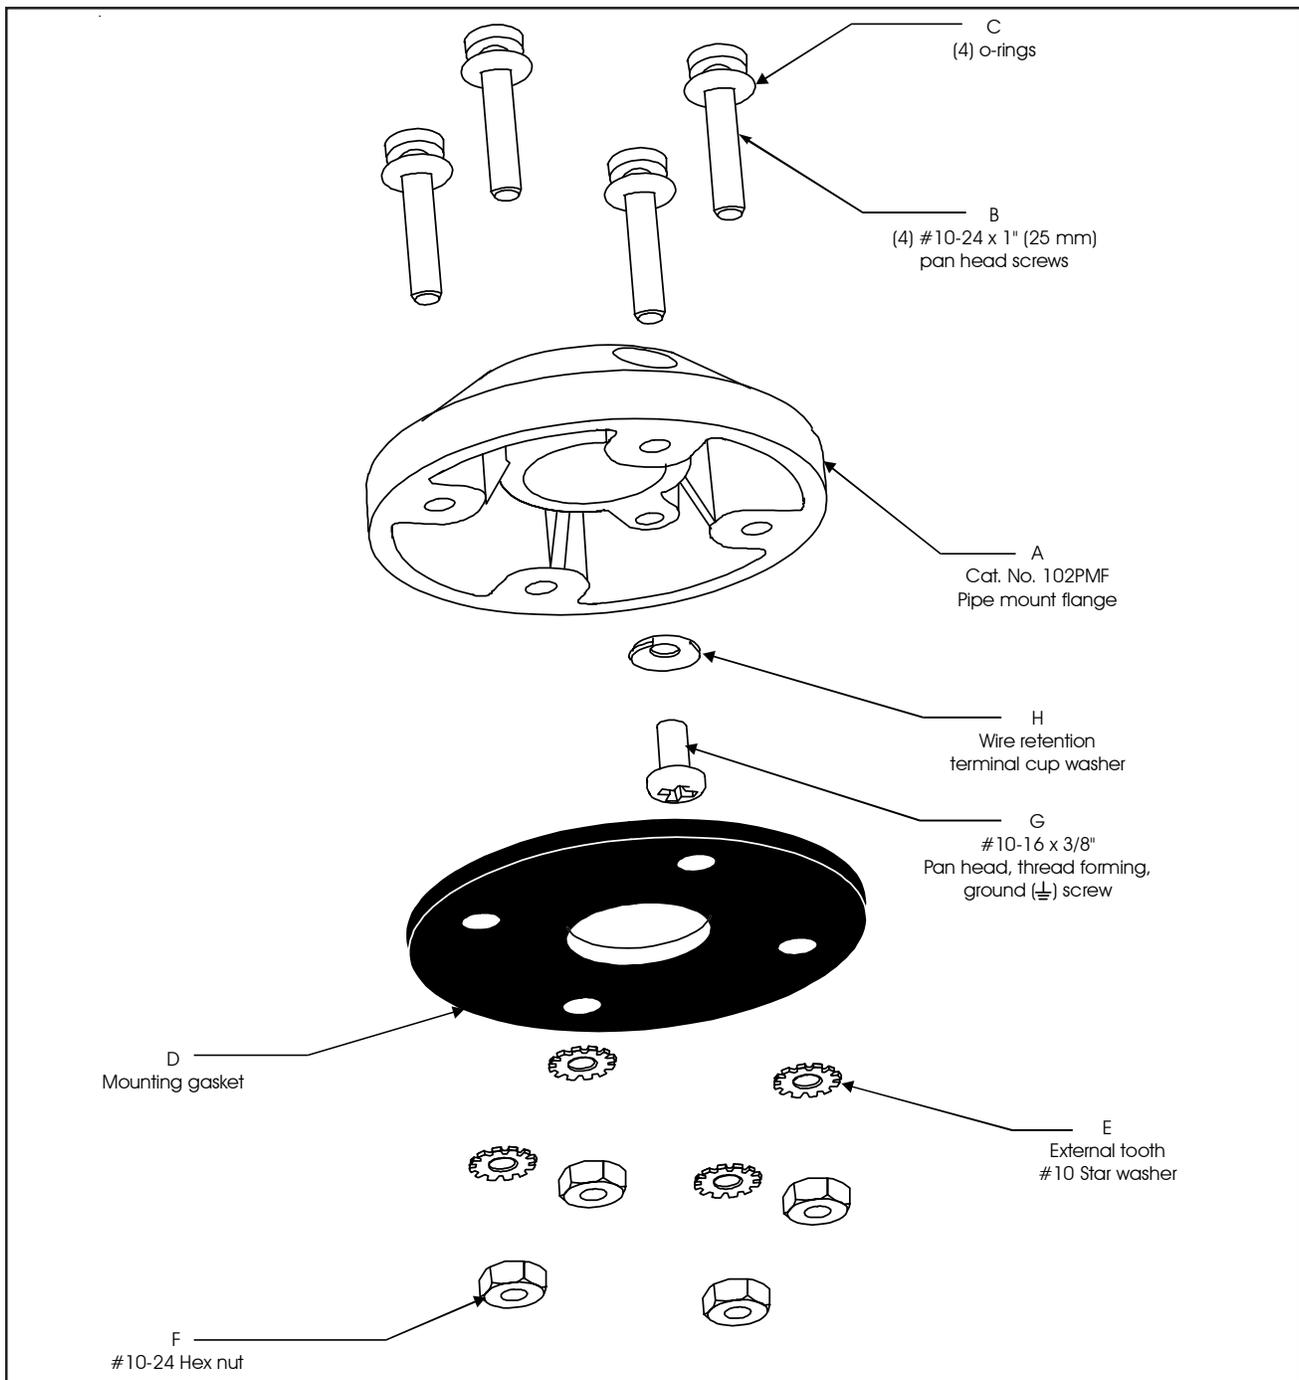

Figure 4. Optional 102PMF Mounting Kit Assembly
**NOTE:** All references below are to Figure 4.
- a. Using the supplied gasket (D) as a guide, mark the four mounting holes and the center clearance hole on an appropriate surface.